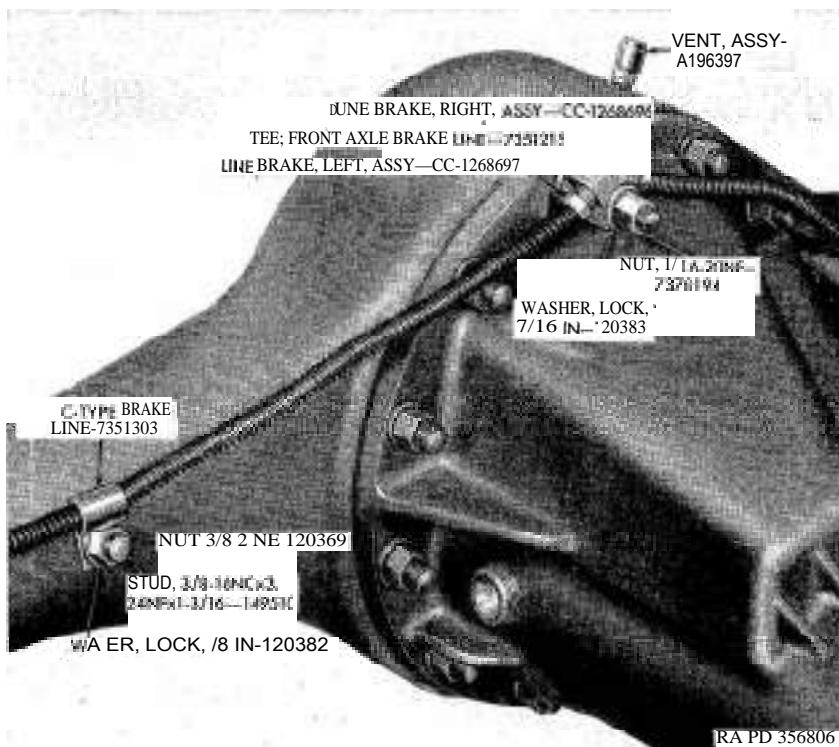

Figure 48. Front axle brake line tee and connections.
a. Remove Brake Line Assemblies and Front Axle Brake Line Tee (fig. 48).
- (4) Remove flange bearing cups (M and AT) from flange assemblies. Remove flanges from vise.
- (5) Clamp the lower sections of the left and right flange assemblies (Z and AD) between copper jaws of a vise and remove cap screws, lock washers, and flange bearing lower caps (CC and ZZ).
- (6) Remove flange bearing cups _____ and VV) from flange assemblies. Remove flanges from vise.
e. *Remove Vent Assembly.* Remove vent assembly (fig. 48) from axle housing.
f. *Remove Brake Line C-Type Clips* (fig. 48). Remove nuts, lock washers, brake line C-type clips and studs from axle housing.